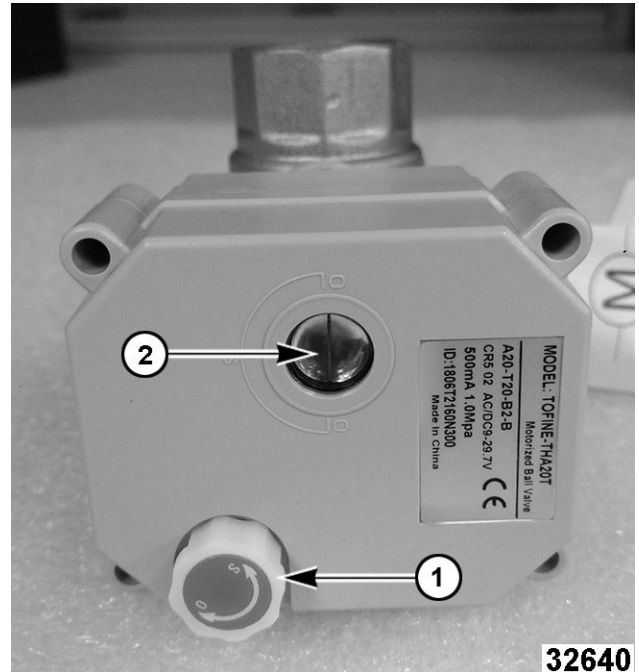

Fig. 64
- B. Pull knob (Fig. 64) out and turn while watching indicator window. Verify until red line inside indicator window (2, Fig. 64) is vertical (open position) with valve body.